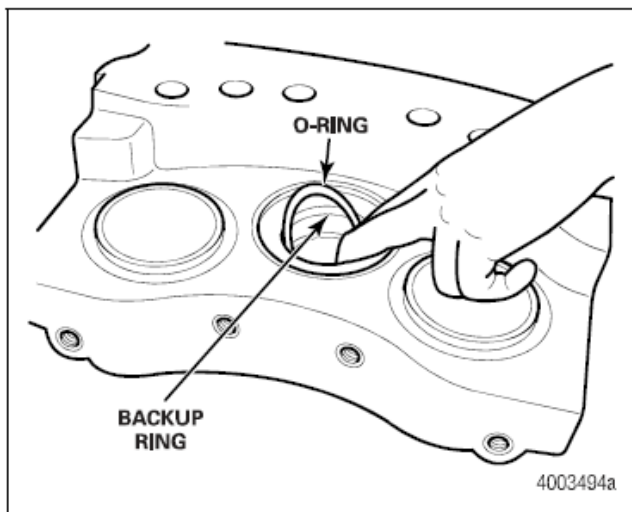

Figure 5.5
12. Install one new, smaller diameter (2.5-inch-63.5 mm) parking piston backup ring into the ring groove of each caliper housing. Figure 5.5
13. Lightly lubricate two new, smaller diameter 2.5-inch (63.5 mm) parking piston O-rings using silicone grease. Install one O-ring into the O-rings grooves of each caliper housing. Figure 5.5.